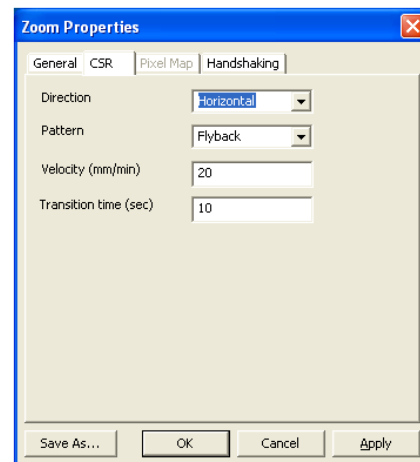

Figure 6 CSR Specific Settings
3. Choose the **CSR** tab (see Figure 6):